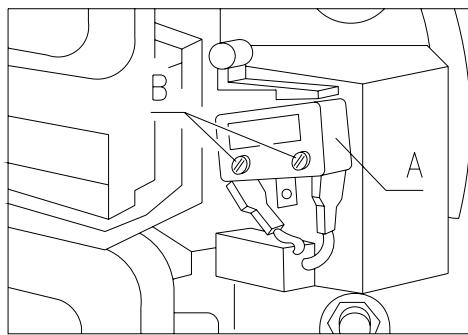

FIG. 17
8.8 REMPLACEMENT COURROIE DE MOUVEMENT DES "PORTILLONS" (FIG. 17)
8.9 SUBSTITUTION MICROINTERRUPEURS PORTILLONS DE PRELEVEMENT (FIG. 17)